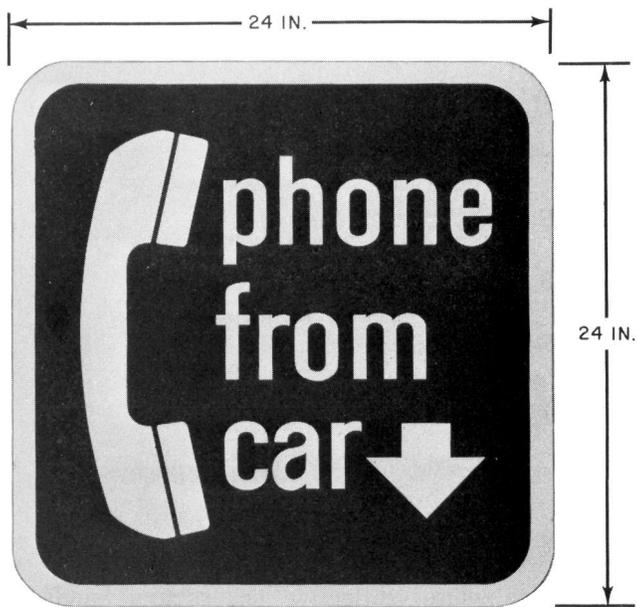

Fig. 2—KS-20065, List 5 Sign
- (b) KS-20065, List 5 (Fig. 2)